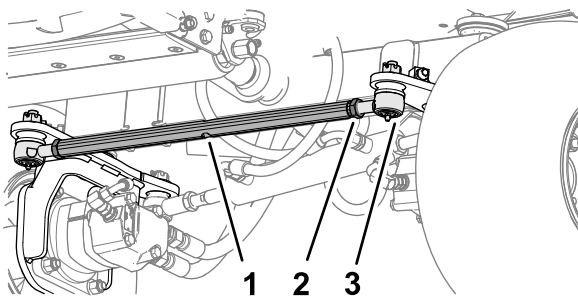

Figure 62
1. At the front of the rear wheel, loosen the 2 jam nuts securing the track rod assembly to the rod ends (Figure 62).
2. Align the wheels by rotating the track rod (Figure 62).
5. Tighten the 2 jam nuts to secure the track rod assembly and the rod ends (Figure 62).